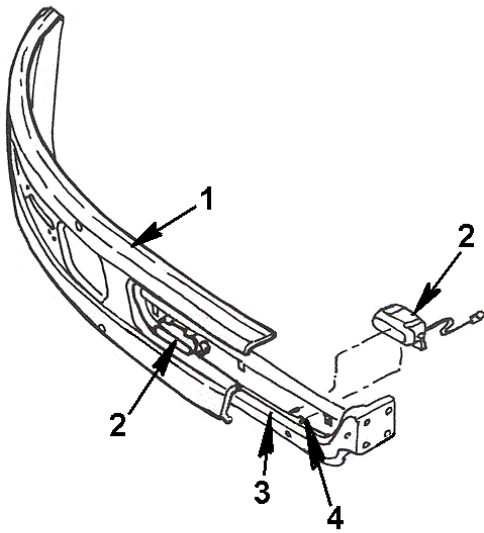

Figure 54 Fog Light Removal
4. Loosen and remove fog light mounting nut and flat washer (Figure 54, Item 4).